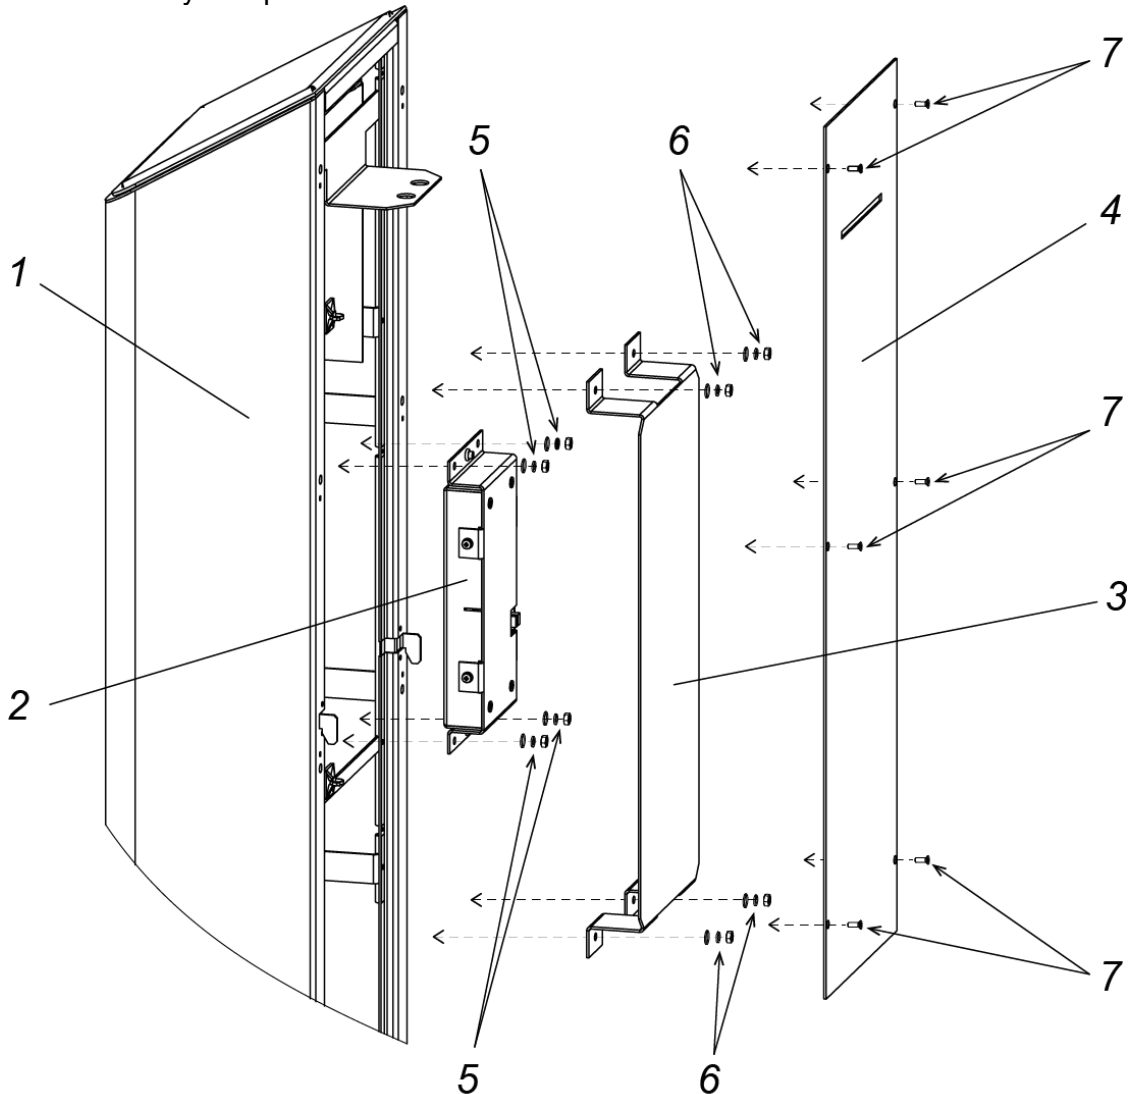

Figure 17. Side indication block (standard side module)
- for standard side module (Fig. 17):
- remove the plate (4, Fig. 17), in order to do that turn off 6 screws (7, Fig. 17),
- remove the bracket (3, Fig. 17) by unscrewing 4 nuts with washers (6, Fig. 17),
- remove the indication block (2, Fig.17) by unscrewing 4 nuts with washers (5, Fig.17).